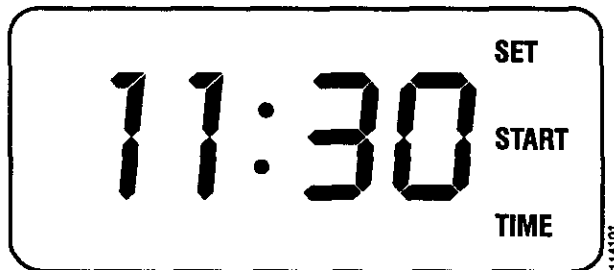

Figure 10.
6. Depress Start Time button. A "beep" will sound and the display will show SET-START-TIME on the right hand side of the display, as shown in Figure 10.